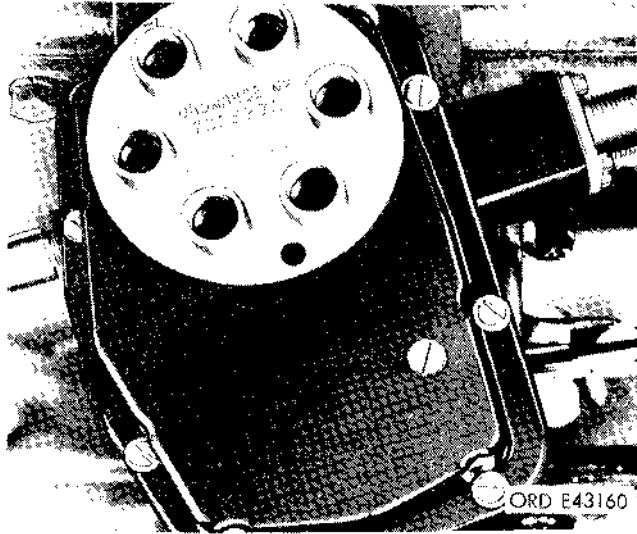

Figure 2-146. Distributor assembly with cover attached.
(4) Install a new mounting gasket on top of the distributor drive housing (9), and position the distributor and coil assembly (4) on the housing, engaging the coupling at the lower end of the distributor shaft with the coupling on the upper end of the drive shaft inside the housing.
(5) Position the two distributor mounting clamps (8) on top of the drive housing, and secure them with the two capscrews (1) and lockwashers.
(6) Adjust the breaker point gap (*d*(1) below).
(7) Install the rotor on the breaker cam, position the distributor cover on the housing being sure that the cover gasket is in place, and secure the assembly with eight screws and lockwashers (fig. 2-146).
(8) Position the distributor primary wire (3) at
(9) Position the distributor vent line (6) at the elbow on the front of the distributor, and tighten the nut (5).
(10) Insert the ends of the spark plug cables in the cable sockets (corresponding to spark plug numbers in the distributor cover) (fig. 2-146), and tighten the connectors.
(11) Check the ignition timing, and correct it if necessary (para 2-120).